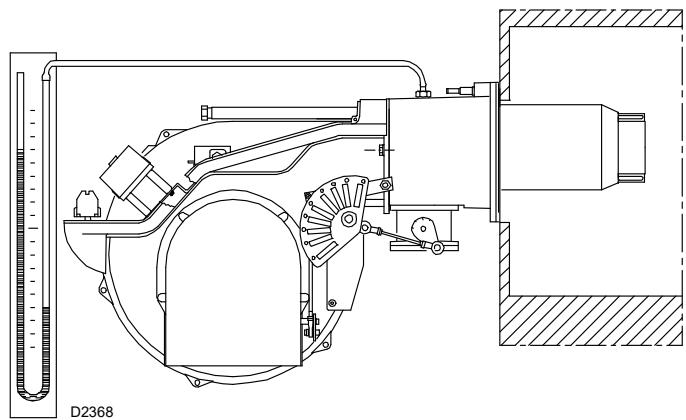

Fig. 35
- Purge the air from the gas line. Fit a U-type manometer (Fig. 35) to the gas pressure test point on the sleeve. The manometer readings are used to calculate the MAX. burner power using the .